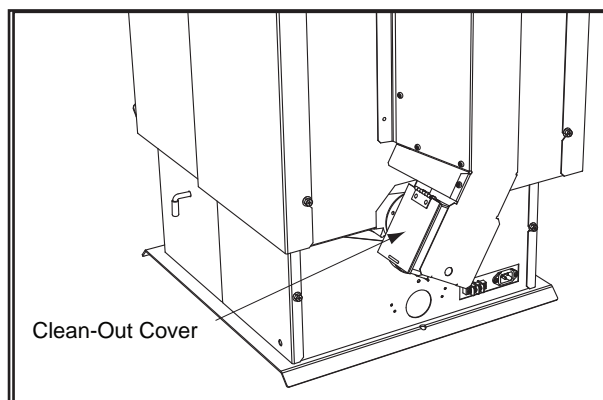

Figure 15.1
- b. Open the clean-out cover. **Figure 15.1.**